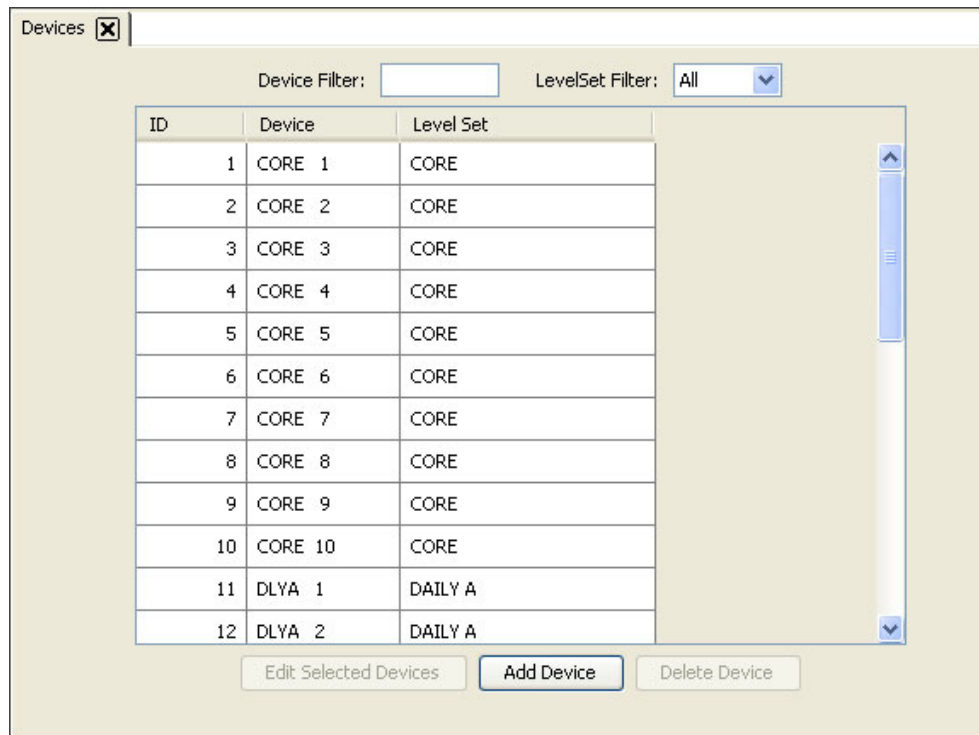

Figure 9-7. Devices Page
- 2 From the Navigation area, select the 'Configuration' pane and then 'Devices'. The 'Devices' page displays, as shown in Figure 9-7.